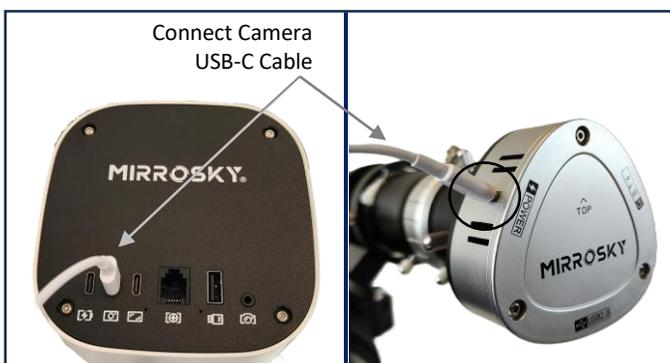

Fig. 2.28
- 1. Connect Camera Cable:** Connect the included USB-C cable from the mount control panel port labeled "CAMERA ICON"  to the USB-C port on the MirroSky camera. See Fig. 2.28.